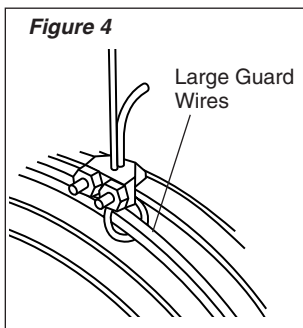

Figure 4
1. Loop one end of Cable around the Large Diameter Wires of both the Front and Rear Circulator Guard. (Figure 4)
2. Attach a Cable Clamp with the "U" on the tail side of the loop leaving a tail approximately 1 to 2 inches. Tighten Clamp Nuts. Make sure no part of the Cable interferes with the Blade. (Figure 4)